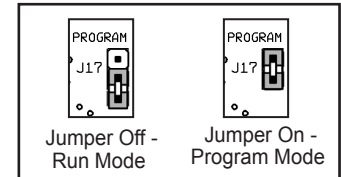

Fig 13: J17 Program Jumper
1. Remove cover and install the shunt jumper across the J17 pins (see Fig. 13).